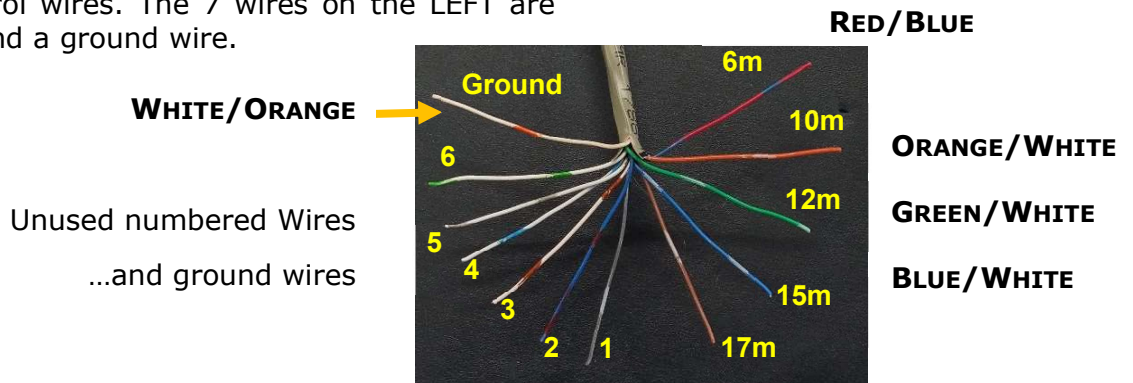

FIGURE 99
□ **STEP 9.10** Unwrap the 6 pairs of wires (12 wires), then separate and arrange wires, as shown in **FIG. 99**. The 5 wires on the RIGHT are BAND control wires. The 7 wires on the LEFT are unused wires and a ground wire.
□ **STEP 9.11** Cut wires #1 to #6 on **LEFT** at jacket (**FIG. 99**). **DO NOT CUT the WHITE/ORANGE wire [GROUND WIRE]**, as highlighted in **FIGs 99 and 100**.